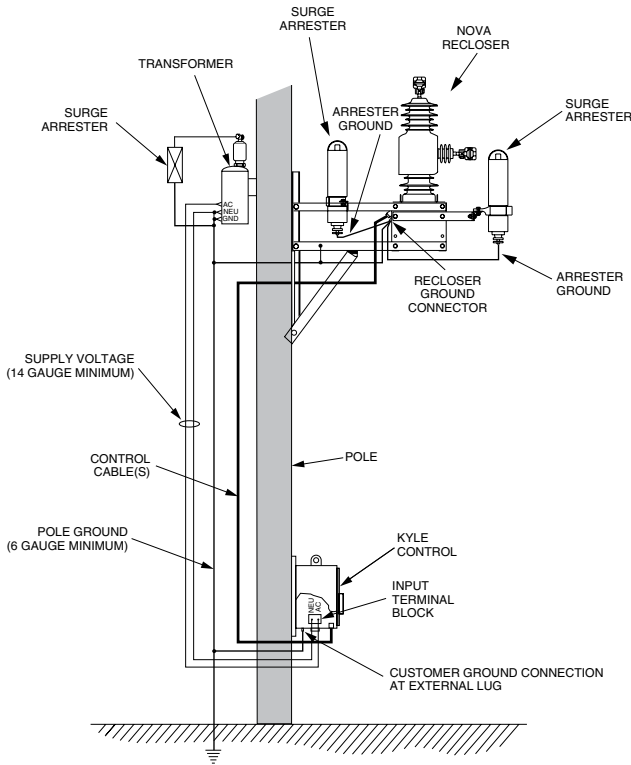

Figure 10. Recommended grounding method for NOVA recloser with Eaton's Cooper Power series microprocessor-based control and local supply voltage transformer.
- Refer to Figures 10, 11, and 12 for recommended grounding for the Type NOVA recloser.
Installation with a local supply voltage transformer must include the following (refer to Figure 10):